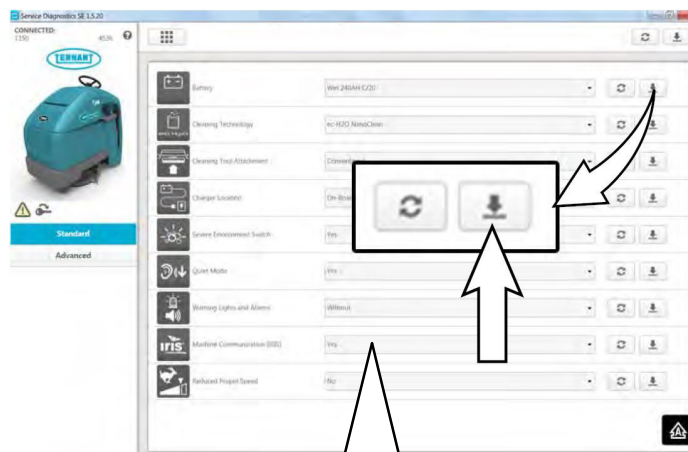

Fig. 27
7. From the machine configuration page, select “Yes” for **Machine Communication (IRIS)** (Figure 27). Then press the down arrow button to program the machine. A green check will appear next to the down arrow button when programmed.